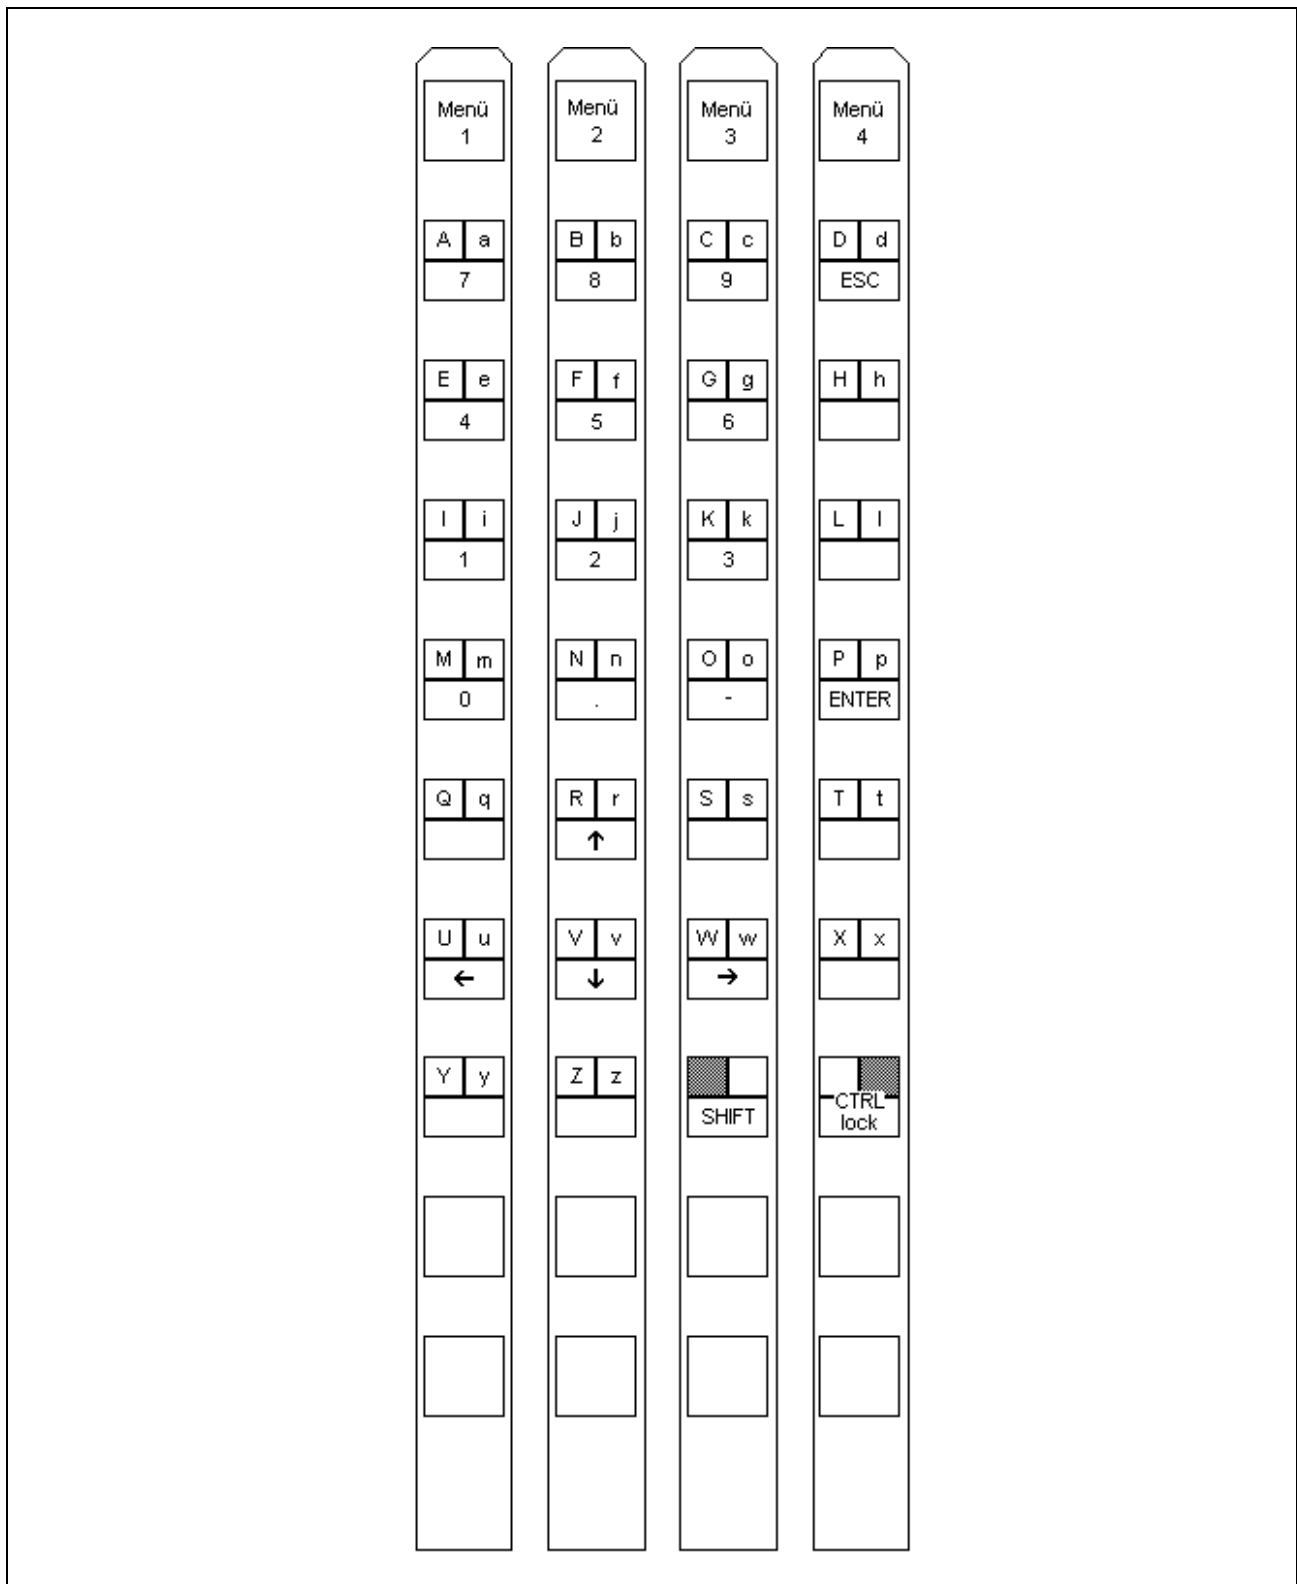

Fig. 5-3: Key assignment of the programming example
- Fig. 5-3: Key assignment of the programming example 5-3